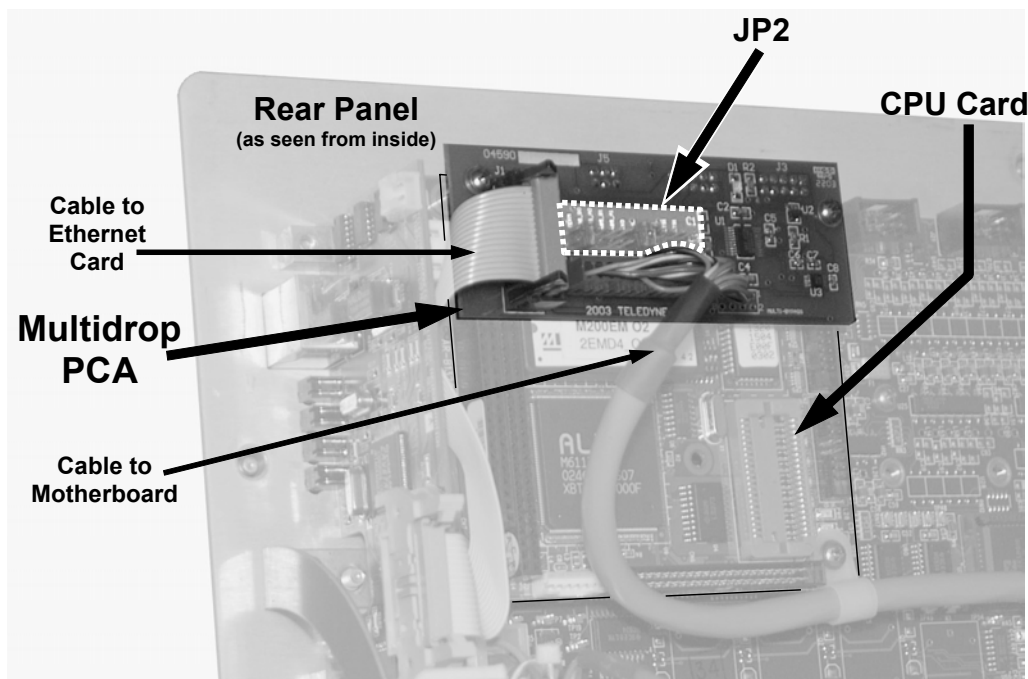

Figure 6-11: Location of JP2 on RS232-Multidrop PCA (option 62)
The RS-232 multidrop consists of a printed circuit assembly that plugs onto the CN3, CN4, and CN5 connectors of the CPU card (see Figure 6-11) and the cabling to connect it to the analyzer's motherboard. This PCA includes all circuitry required to enable your analyzer for multidrop operation. It converts the instrument's COM1 port to multidrop configuration allowing up to eight analyzers to be connected the same I/O port of the host computer.
2. Remove the top cover (see Section 3.1) of the analyzer and locate JP2 on the multidrop PCA (see Figure 6-11)